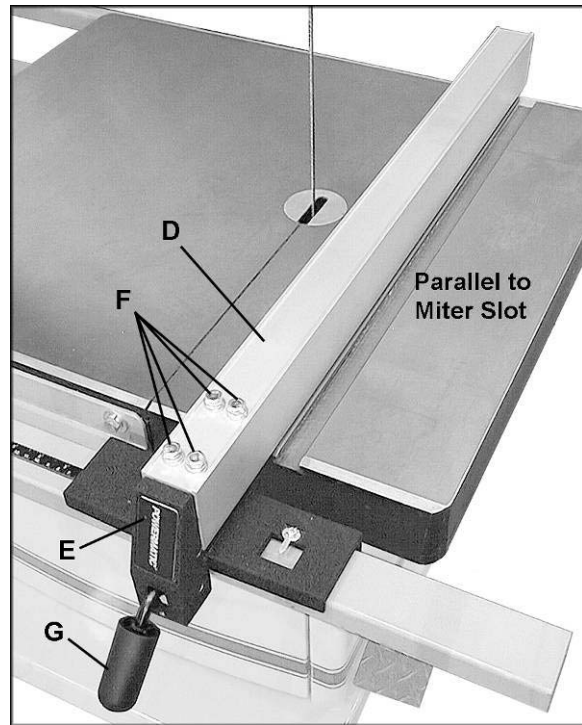
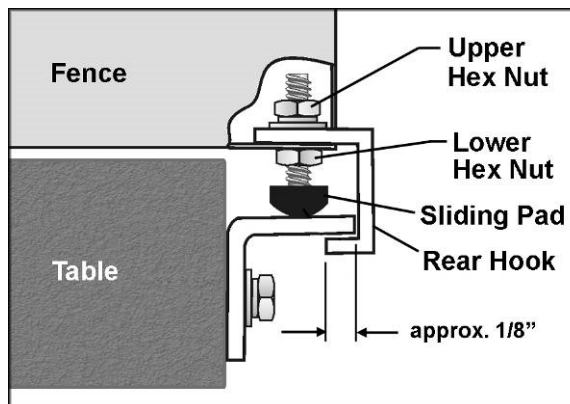
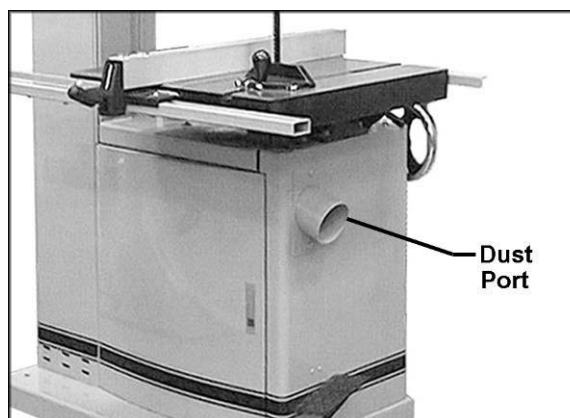

Figure 2
Figure 5
Figure 6
6. Attach the fence (D, Figure 2) to the fence body (E, Figure 2) with four 5/16 x 3/4 hex cap screws, four 5/16 lock washers, and four 5/16 flat washers. Hand tighten the screws only.
7. Place the fence assembly onto the guide rail and against the edge of the miter slot, as shown in Figure 2. The hook at the rear of the fence should fit under the rear rail (see Figure 5).
9. Lock the fence by pushing down the lock handle (G, Figure 2). Because the screws are only hand-tight, you can shift the fence slightly as needed until the fence parallels the miter slot.
10. When the fence has been properly aligned to the miter slot, tighten the four hex cap screws (F, Figure 2) with a 12mm wrench. Make sure the fence remains parallel to the miter slot as you tighten the screws. (NOTE: This alignment will again be checked once the guide rail has been tightened.)
15. If the gap between fence and table is not consistent, loosen either of the hex nuts on the hook (Figure 5) and rotate the sliding pad until the fence/table gap is consistent across the full length of the table. When this is achieved, tighten both hex nuts.
16. Check the adjustment of the hook at the rear of the fence. The hook should be positioned so that it overlaps the rear rail by approximately 1/8". See Figure 5. To adjust the hook, loosen the upper hex nut (Figure 6) and slide the hook in or out as needed. Re-tighten upper hex nut.
Attach the hose of the dust collector to the 4" dust port below the band saw table (Figure 6). Secure with a hose clamp or duct tape.